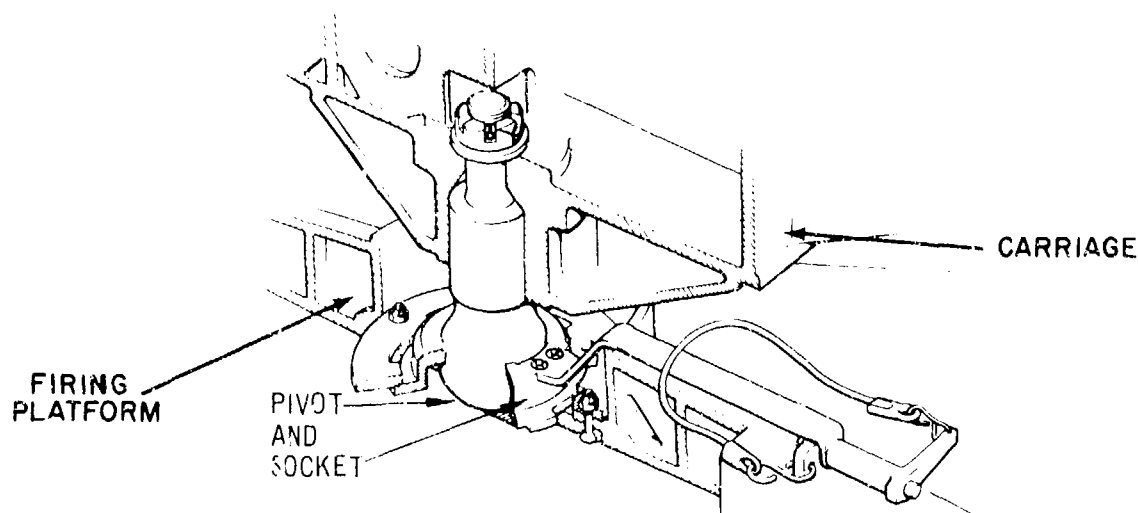

Figure 4-17. Traversing mechanism pivot and socket.
**a. Type.** The type of traverse is pivot and socket. The pivot is attached to the carriage and fits in the socket of the firing platform (fig 4-17). When the weapon is in the firing position, the socket supports the weight of the carriage by providing a bearing surface in which the pivot rotates during traverse (fig 4-17). The total amount of on-carriage traverse is 6,400 mils. The traversing mechanism on this weapon is the bevel gear type with a roller tire.